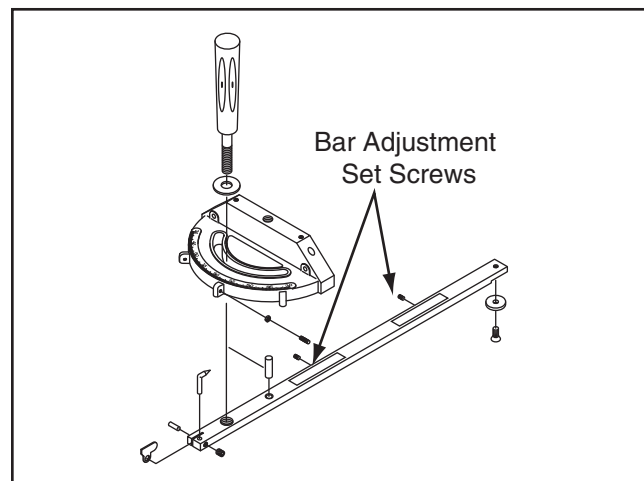

Figure 129. Screws for adjusting miter bar in miter slot.
1. Adjust the set screws shown in **Figure 129**.